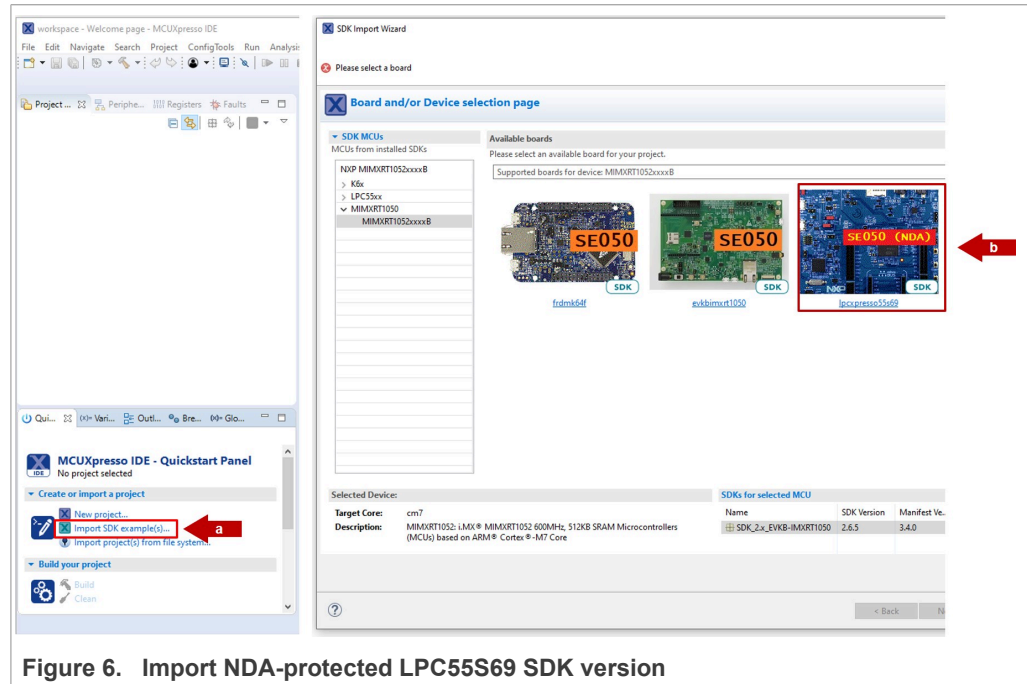

Figure 6. Import NDA-protected LPC55S69 SDK version
- b. Make sure that a picture of an LPC55S69 with a red ribbon with the label "SE050 (NDA)" on it is available as shown in Figure 6